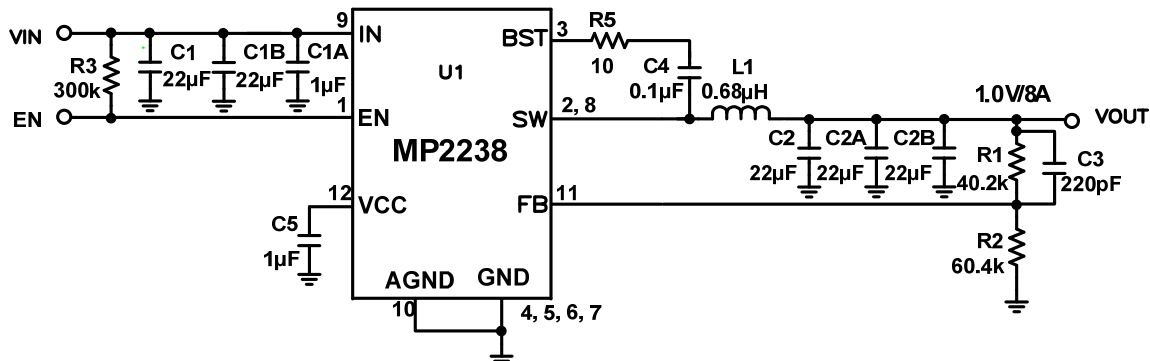

Figure 8: $V_{IN} = 12V$, Output = 1.0V/8A
9) The recommended layout is based on the Figure 8 in Typical Application Circuit section.
Figure 8 shows a detailed application schematic. See the Typical Performance Characteristics section on pages 5 to 10 for the typical performance and circuit waveforms. For more device applications, see the related evaluation board datasheets.